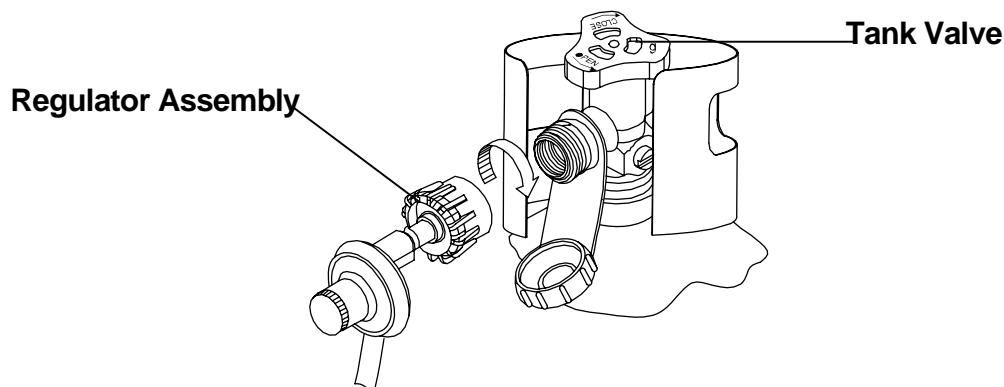

Fig.16
6. When connecting regulator assembly to the valve, hand-tighten nut clockwise to a positive stop as shown in Fig.16. Do not use a wrench to tighten. Use of a wrench may damage the quick-coupling nut and result in a hazardous condition.